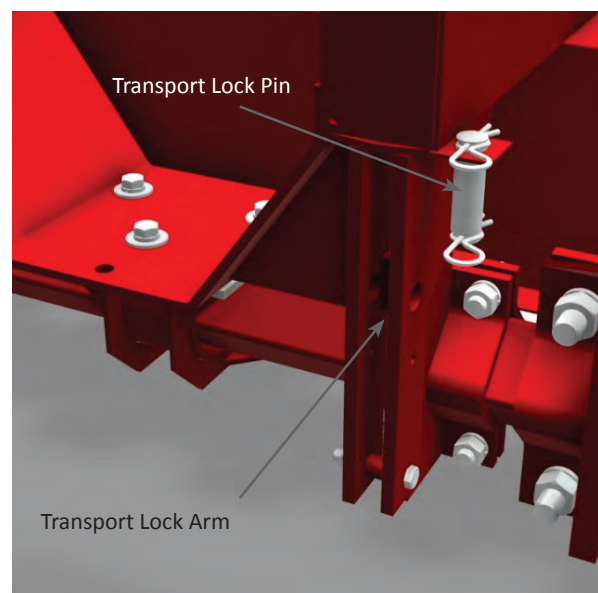

Figure 8: Transport Lock and Pin
1. The transport lock, Figure 8, holds the body of the Shredder up so that it can be transported with the hydraulic or mechanical ram disconnected.